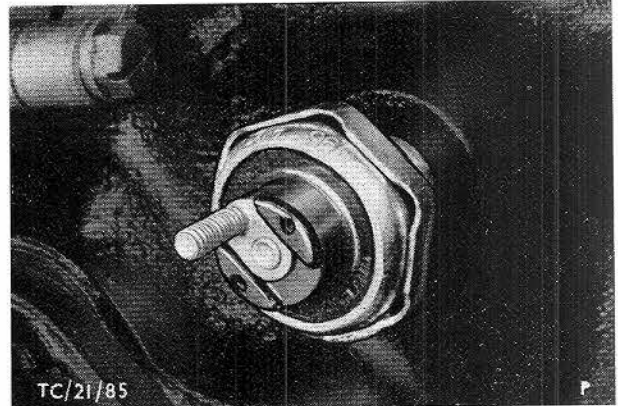
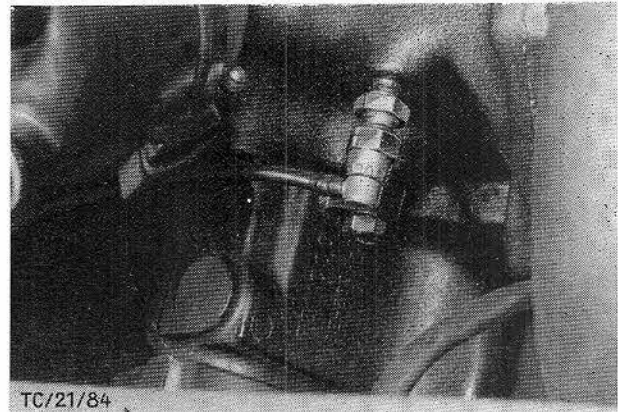

Fig. 7. Oil pressure switch.
Fig. 8. Oil pressure line connection.
1. Remove oil pressure switch lead connector and remove oil pressure switch, Fig. 7. In case of pressure gauge, remove pressure line and connector, Fig. 8.